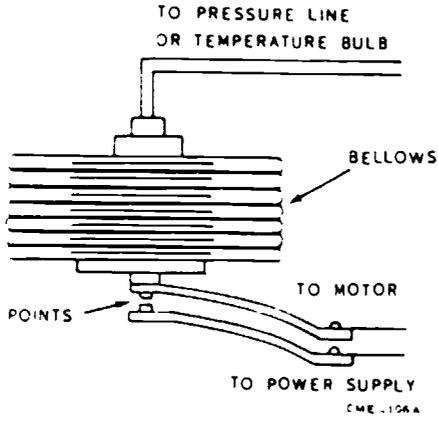

Figure 29. Bellows
**BELLOWS.** The bellows (Figure 29) may be connected directly to the condensing unit by means of tubing, or they may be actuated by the pressure in a temperature bulb. The pressure will cause the bellows to expand or contract. This movement is used to open or close the electrical switch.
1. Bellows (Figure 29)